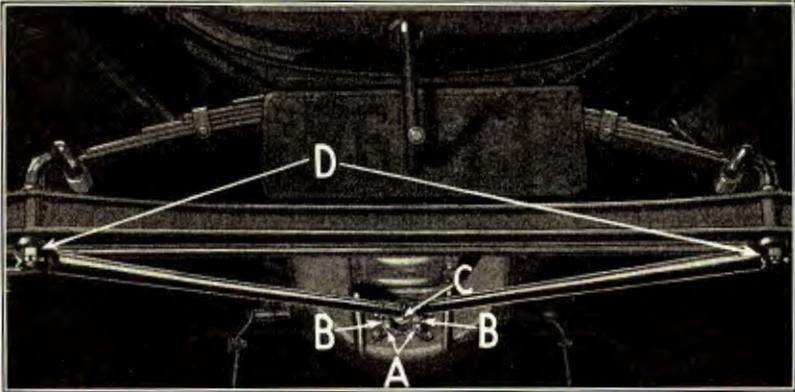

Fig. 379
- 696** Place axle on jacks, position spring pad on spring and lower front end of car until spring enters cross member, making sure that head of tie bolt enters hole in front cross member (See Fig. 63). Place spring clip bar and license bracket over ends of spring clip (See Fig. 59), and run down the two spring clip nuts drawing them down tightly and locking with cotter keys. Place a little cup grease in radius rod ball socket and position ball on end of radius rod into socket. Place ball cap and springs over ends of studs, the two stud nuts are then run down on studs and locked by wiring them together as shown at "A" Fig. 379.
- 719 Break wire and run off the two radius rod ball cap stud nuts (See "A" Fig. 379), lift off springs "B" and ball cap "C".
- 727 Insert ends of radius rods over ends of spring perches and run down the spring perch nuts locking them with cotter keys. (See "D" Fig. 379).